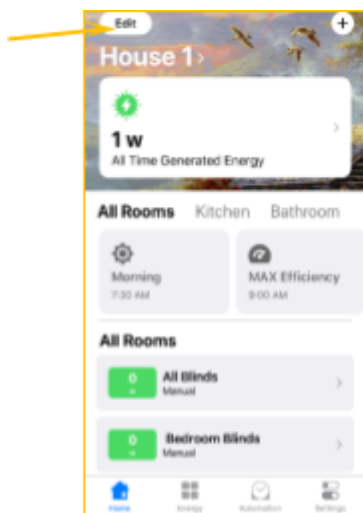

Figure 31
**10.8.1.** Click **Edit** tab in the top left corner to start (Fig. 31).